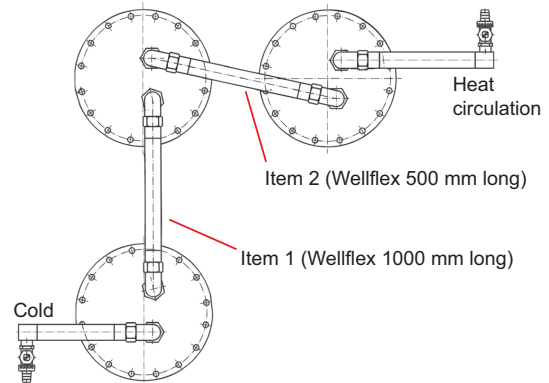

Fig. 1: PWD 750 connection diagram
- 1) Install the corrugated pipe (1,000 mm long, item 1) to the upper connection point on the pre-heating heat exchanger and to the lower connection point on the upper left heat exchanger (see Figure 1).
- 2) Connect the corrugated pipe (500 mm long, item 2) to the upper connection point of the left heat exchanger and to the lower connection point of the right heat exchanger (see Figure 1).